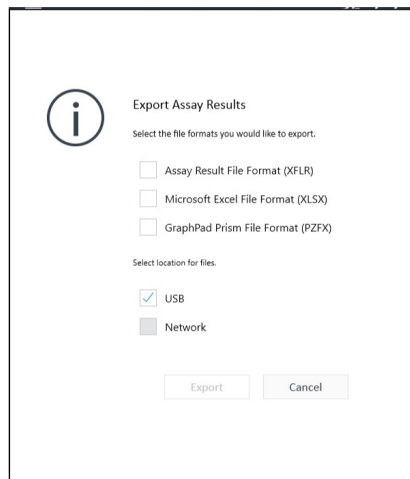

Figure 25. Export options dialog box.
- 2 Export options:** Assay result files may be exported to Microsoft Excel or GraphPad Prism file formats (requires a USB flash drive or shared network directory). See Figure 25. To export these files (either individually or collectively) to a network location or USB, click the individual check box or click **Select All**, and then click **Export**.